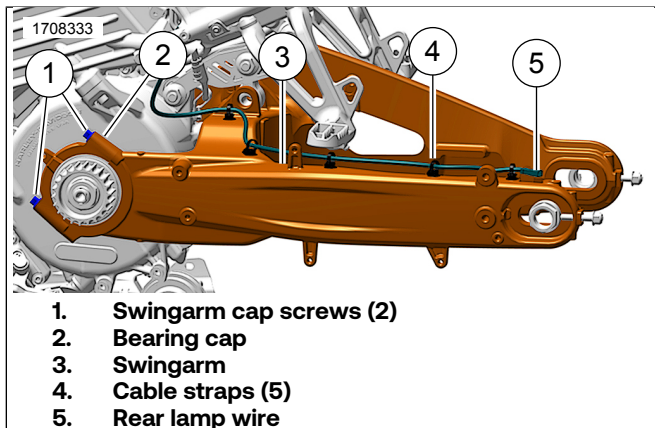

Figure 1. LH Swingarm
11. See Figure 1. Remove both swingarm bearing caps (2).